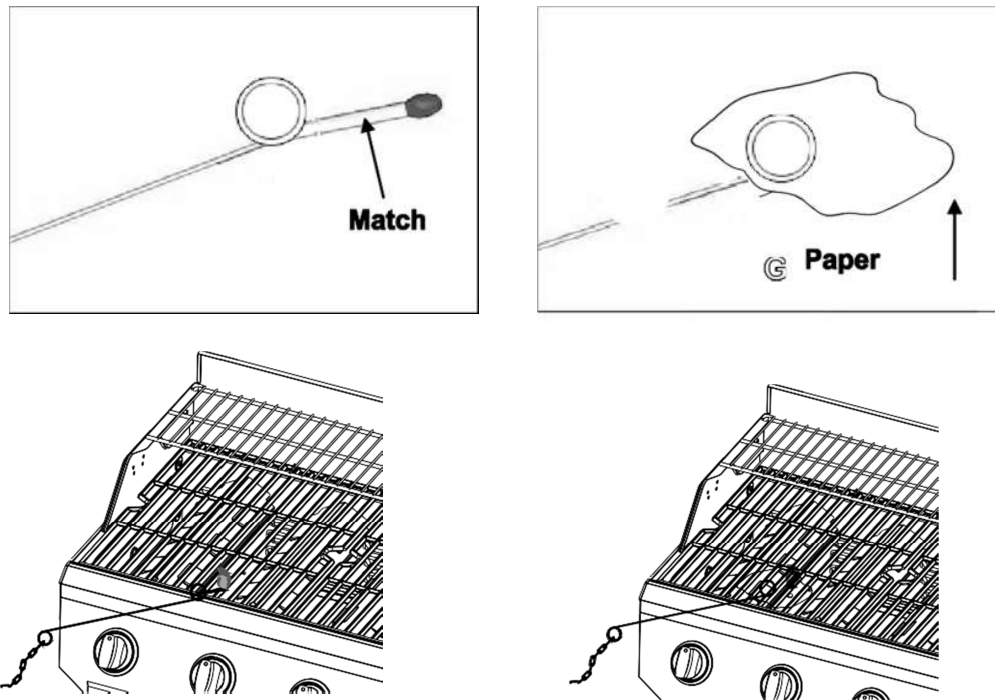

Fig. 29 Match/Paper Lighting Illustration
4. Attach either the match or paper to the clip (Fig.29), light the match and insert it close to the ports of the burner, and push and turn the depressed knob to the left to “MAX” position.